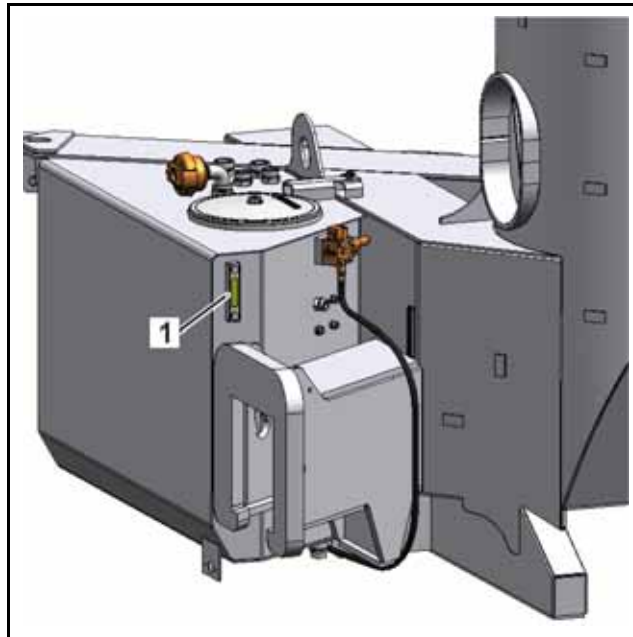

Fig. 274
The reservoir for the hydraulic oil is equipped with an oil level indicator (1) (**Fig. 274**).
Caption (Fig. 274)
When the oil is cold, the oil level must be shown in the middle of the oil level indicator (**Fig. 274**).